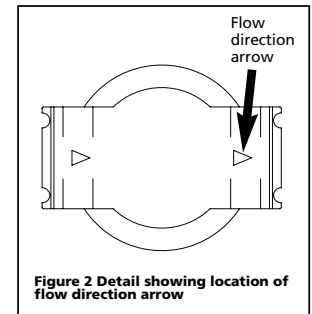

Figure 2 Detail showing location of flow direction arrow
1. Locate the air flow direction arrow (See Figure 2, detail). This arrow shows the direction of the air flow, i.e., it points to the outlet.
- Verify the arrow points to the outlet. (See Figure 2.)